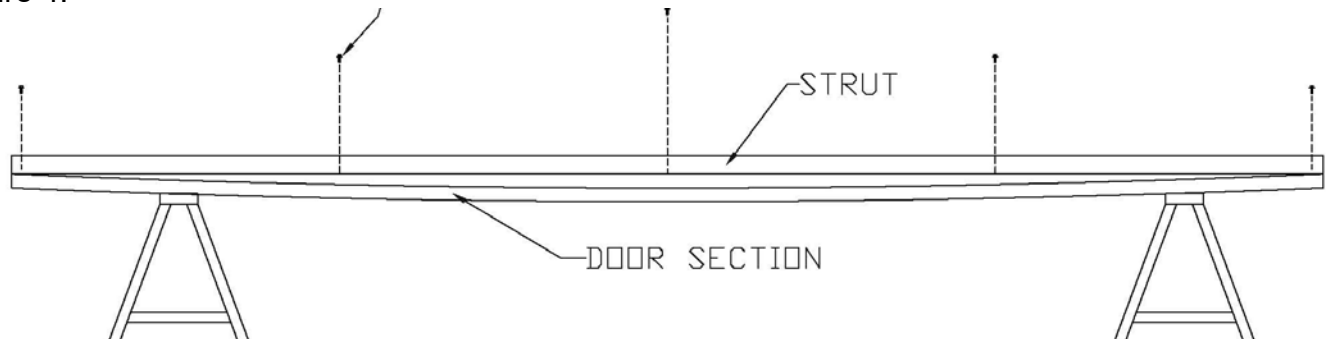

Figure 4
Step 5: (continued) With the section laying face down, position the strut just below the lower leaf of the hinges. Place a small 1 x 4 block in the center of the section between the strut and the section. See figure 4.